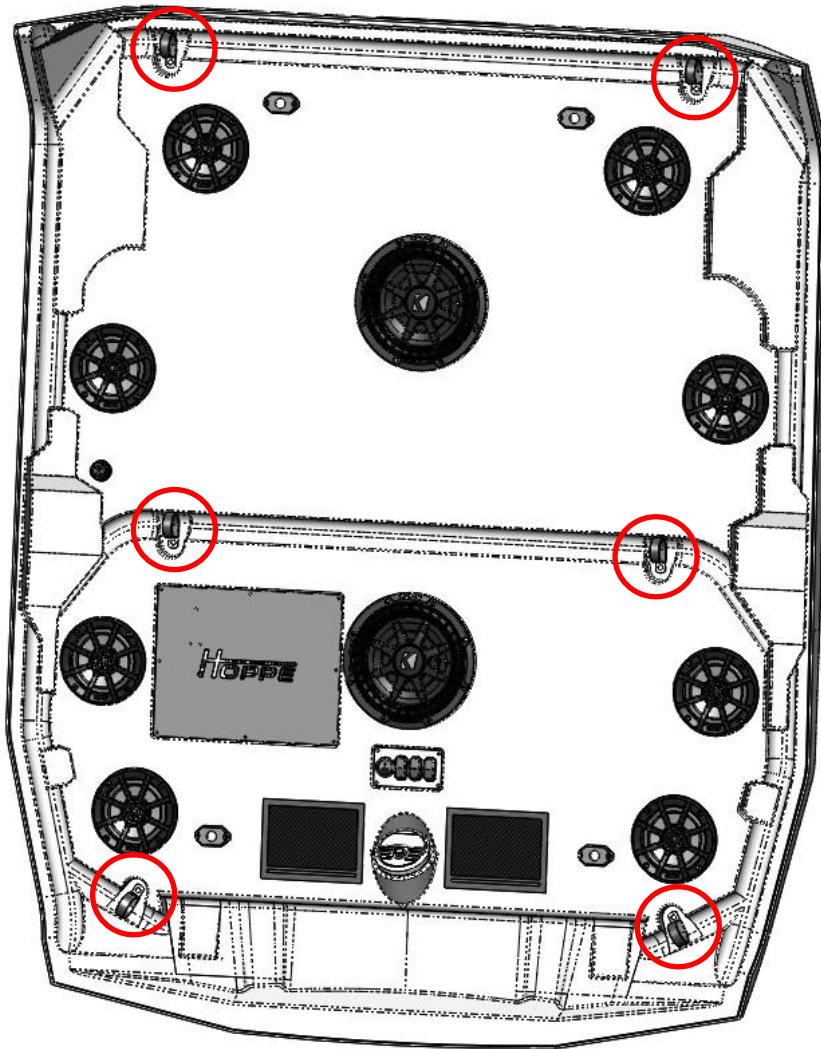
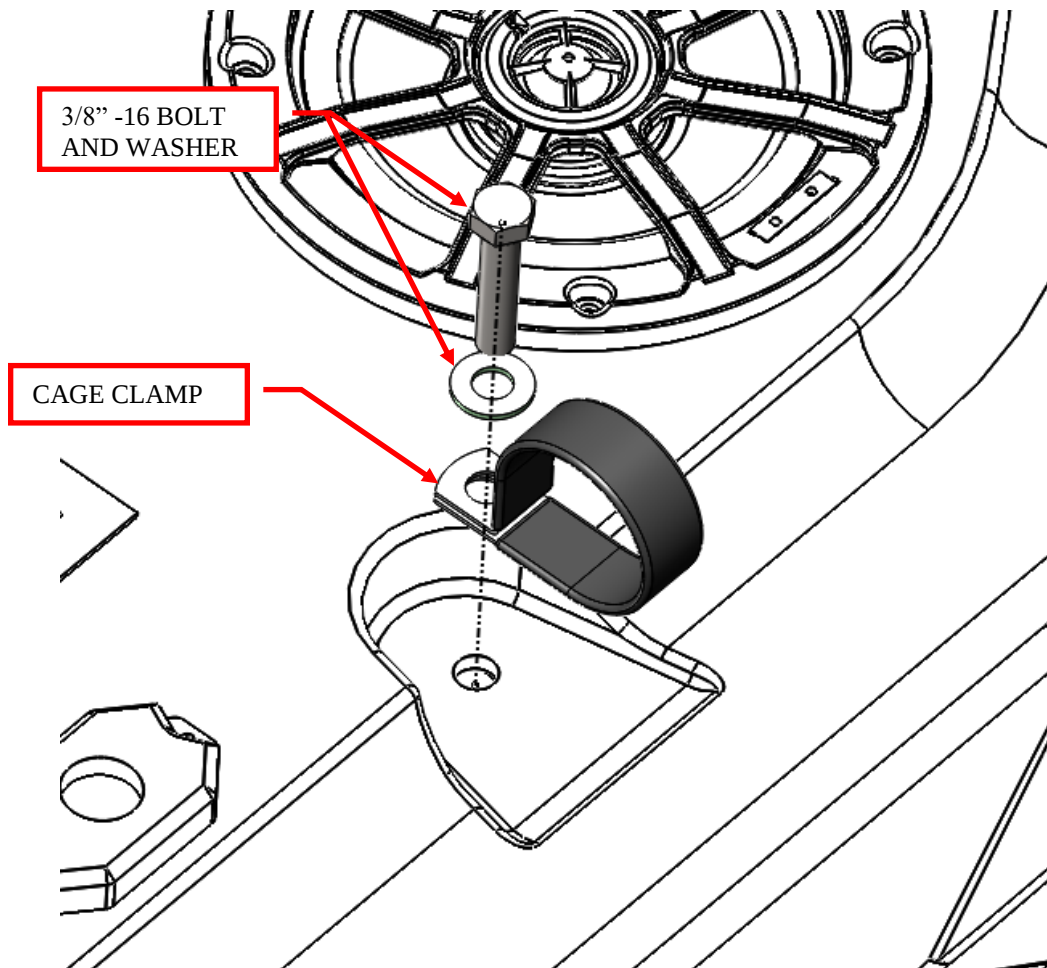

Figure 3: Remove the 6 clamps from the top.
Figure 4: Close up of cage clamp hardware.
1. Remove the cage clamps and 3/8"-16 bolts and washers that come pre-installed on the top. Save the hardware for installation. See Figure 3 and Figure 4.
4. Slide the clamps into position so they line up with the threaded holes in the top. For the two rear clamps and two front clamps, install the 3/8-16 x 1" bolts with washers through both clamp tabs and into the threaded hole in the top. For the center two clamps, install 3/8-16 x 1 1/4" bolts. **Note: if you install the wrong bolt in the wrong location, it may push against the outer skin of the top and damage the surface. Use caution.** Use blue Loctite 243 (medium strength) and torque the bolts to 25 ft.*lbs. See Figure 4.